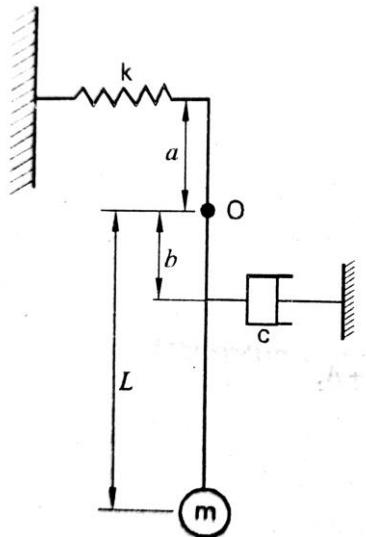

Figure 1
b) Set up a differential equation of motion for the system shown in figure 1 and solve the differential equation for (i) critical damping coefficient (ii) Damped natural frequency **10**